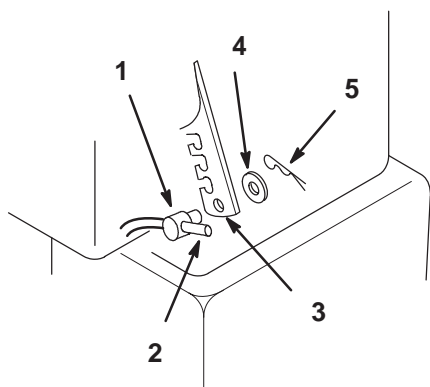
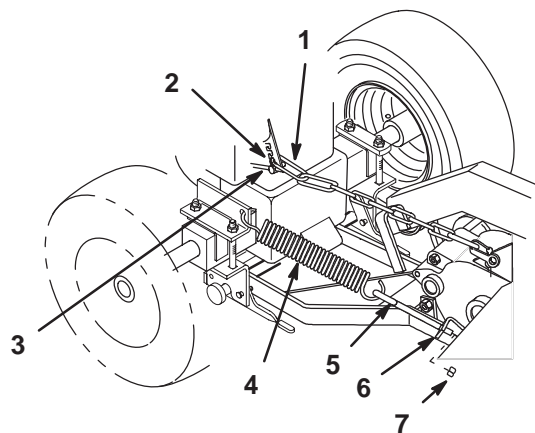

Figure 10
Figure 16
11. Thread trunnion 1 inch (26 mm) onto the threaded end of lift cable. Insert trunnion into lower hole of lift lever. Secure with a washer (3/8 inch) and hairpin cotter (Fig. 10).
5. Remove trunnion and slide long link of lift chain under attachment lift arm and hook into lower notch (Fig. 16). Install trunnion into bottom hole of lift lever (Fig. 10).
7. Hook lift assist spring through left hitch angle mounting plate and eye bolt. Secure eye bolt through bracket with a lock nut (3/8 inch) (Fig. 16). Adjust lock nut so there is light spring tension in the fully raised position.